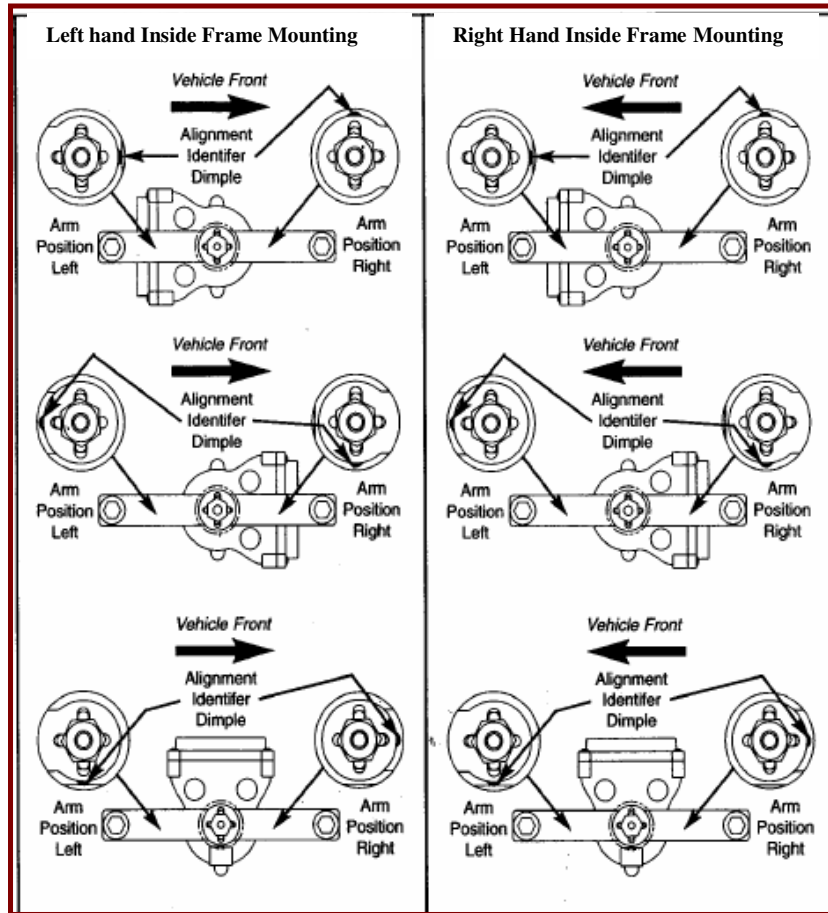
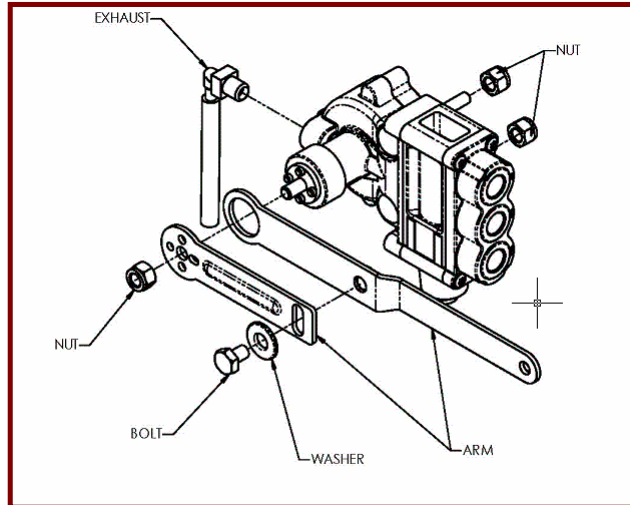

Figure 2. – HCV Control Arm Orientation
Figure 3. – HCV Control Arm Orientation
1). The new HCV can be installed in a vertical or horizontal position with the control arm in either left or right hand position (refer figure 2). Determine the HCV control arm position and orientation on the vehicle. Fasten the control arm to the valve body making sure the alignment identifier dimple on the cap is in the proper position for your valve orientation. Use the nyloc nut provided and tightened to 20in. lbs. Refer figure 3.
D). Determine the control arm and alignment identifier dimple on the cap is in the correct orientation. Refer figure 2.